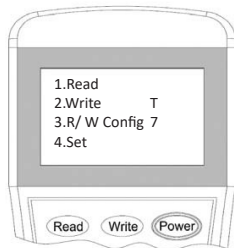

Figure 8
2. Switch-on the programming tool , then press button “3” to enter to **Configuration mode** (Figure 8).